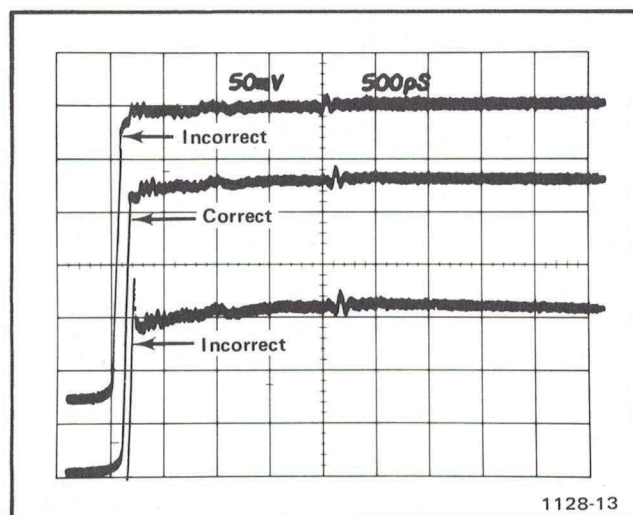

Fig. 4-6. Triple exposure to show correct adjustment of Snap-off Current control R50.
d. Adjust R70 (Avalanche Volts) for the best front corner, as shown in Fig. 4-6.